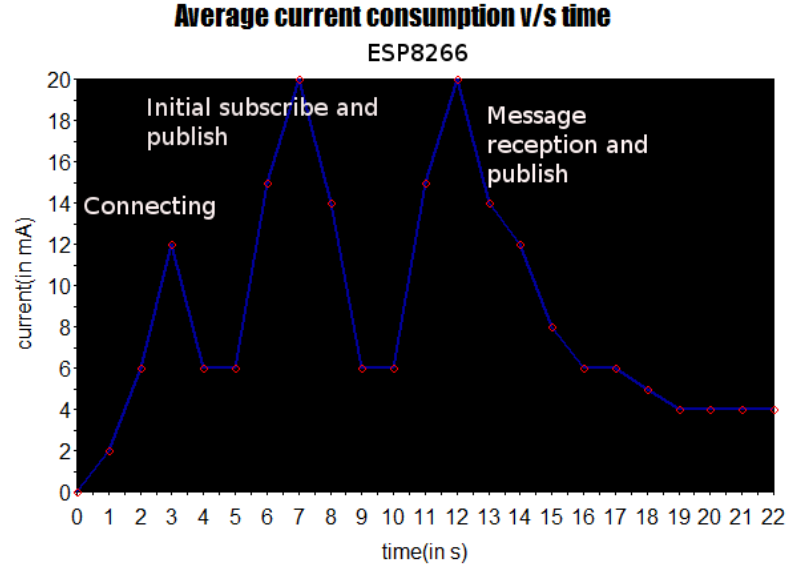

Figure 1: Average
- Average current consumption of the ESP8266 module during its various operations over time. Refer figure 1